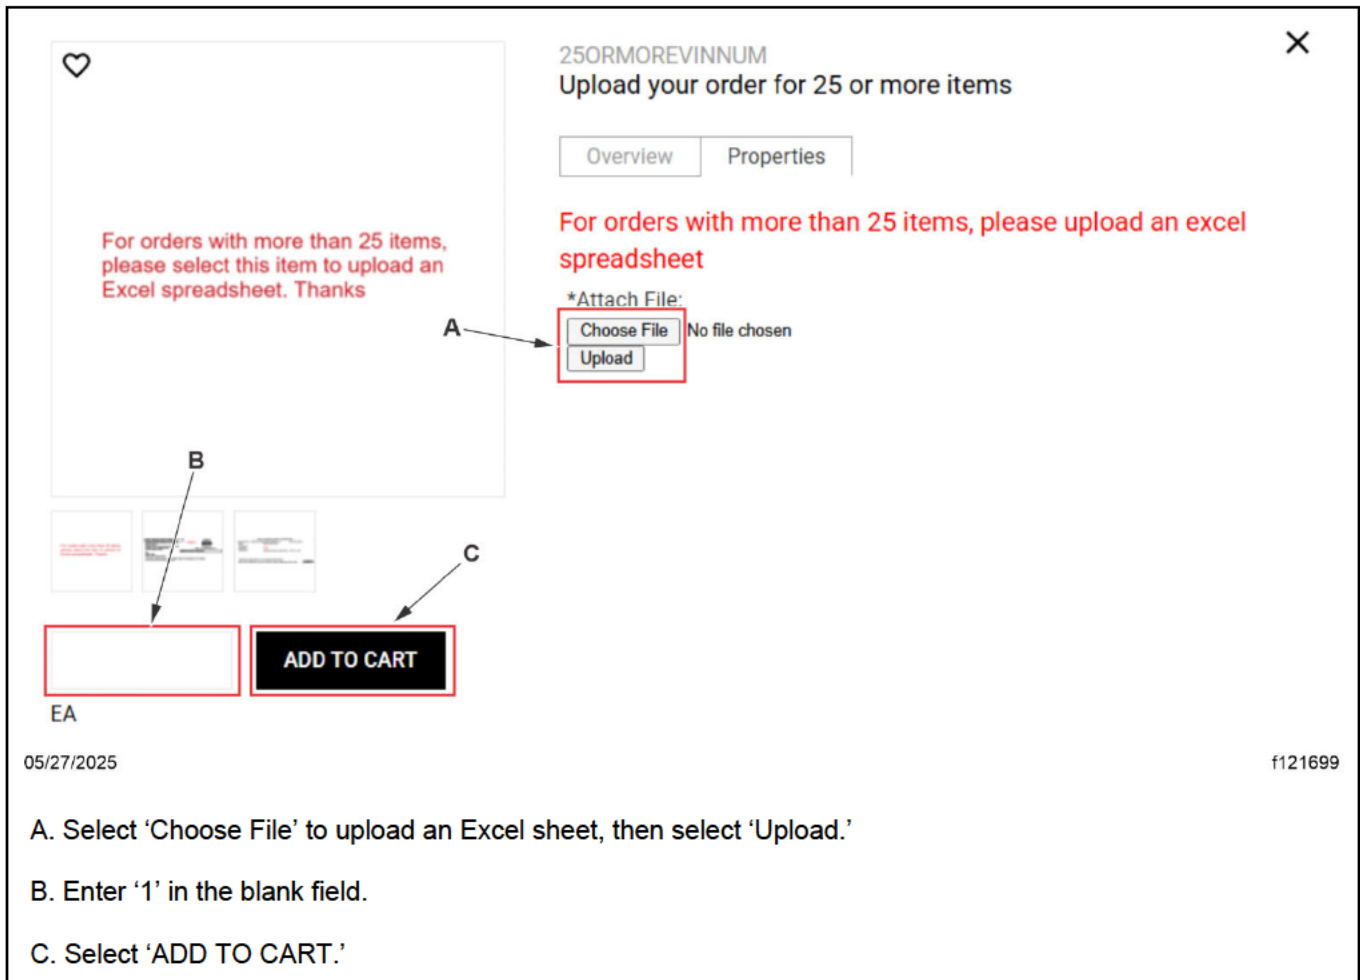

Fig. 6, Ordering for 25 or More VINs
7.2. Select 'Choose File' to upload an Excel sheet, then select 'Upload.' See Fig. 6.
7.3. Enter '1' in the field on the bottom-left of the window, then select 'ADD TO CART.' See Fig. 6.